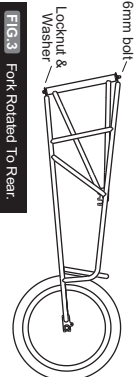
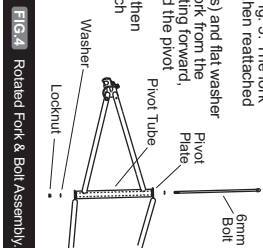

FIG. 3 Fork Related To Rear.
FIG. 4 Rotated Fork & Bolt Assembly.
- 2. FORK ASSEMBLY:** For shipping purposes, the trailer fork has been attached to the frame pointing to the rear of the trailer. Fig. 3. The fork will need to be removed and rotated 180 degrees, and then reattached to the frame, as shown in Fig. 4.
- A)** Remove the lock nut (Fig. 3), using two 10mm wrenches and flat washer then fully remove the long 6mm bolt. This will free the fork from the trailer frame. Remove the fork, to reinstall the fork pointing forward, align the holes in the pivot plates of the trailer frame and the pivot.
- B)** Insert the long 6mm bolt with a washer on each end and then tighten the lock nut. Fig. 4. Tighten the lock nut to 60 inch-pounds (70 cm-kgs).